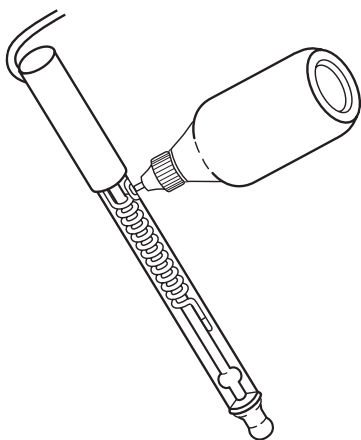

Figure 2
- b. Fill the electrode with the sodium electrode filling solution, Cat. No. 900010. See **Figure 2**. For low-level measurements (less than 10^{-5} M), Cat. No. 900012 is recommended. To function properly, the level of the filling solution must cover the coil and be at least one inch above the sample level on immersion. The electrode fill hole should be open whenever the electrode is in use.